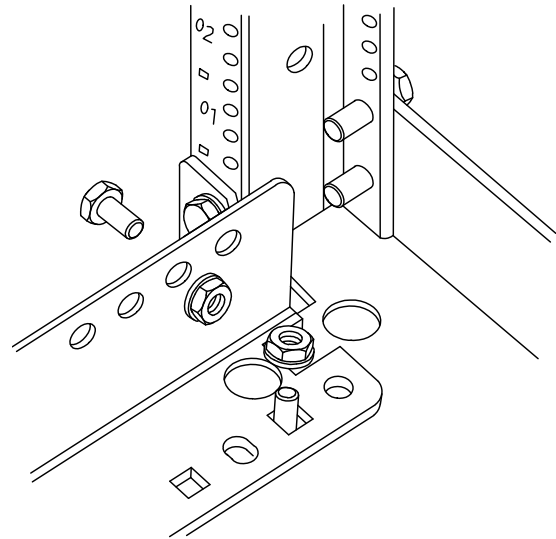

Figure 5
2. Fasten the Lower Adjustment Member to the Lower Cross Member. See Figure 5. Repeat this step for all lower corners.